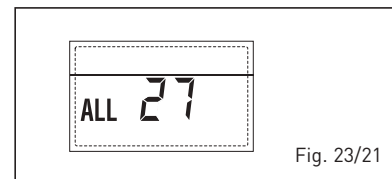

Fig. 23/21
- ANOMALIA COERENZA INGRESSO (S3) SOLO PER IMPIANTO 7 “ALL 28” (fig. 23/22)